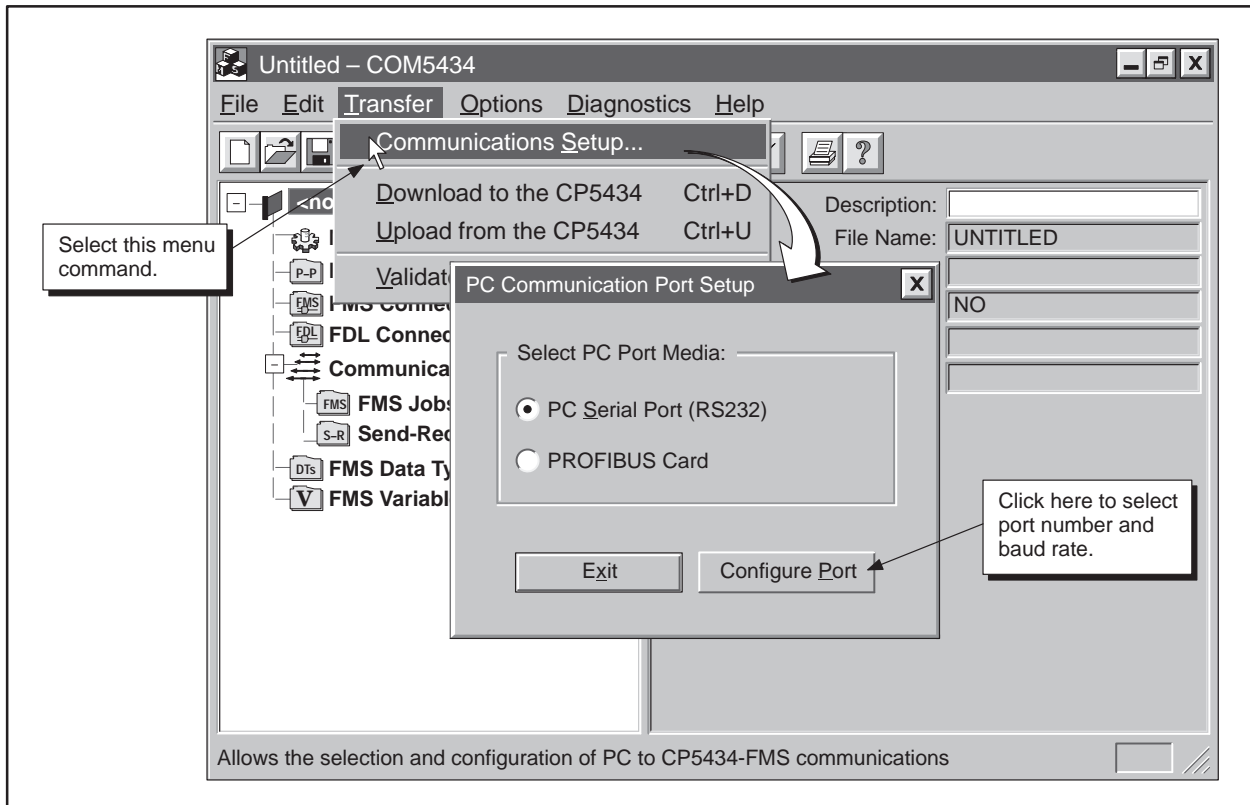

Figure 5-2 Configuring the Communications Setup
1. Select the menu command **Transfer** → **Communications Setup...** as shown in Figure 5-2. The first dialog allows you to select which port you want to configure. Select the PC Serial Port.
1. Select the menu command **Transfer** → **Communications Setup...** as shown in Figure 5-2. The first dialog allows you to select which port you want to configure. Select the PROFIBUS Card option button.